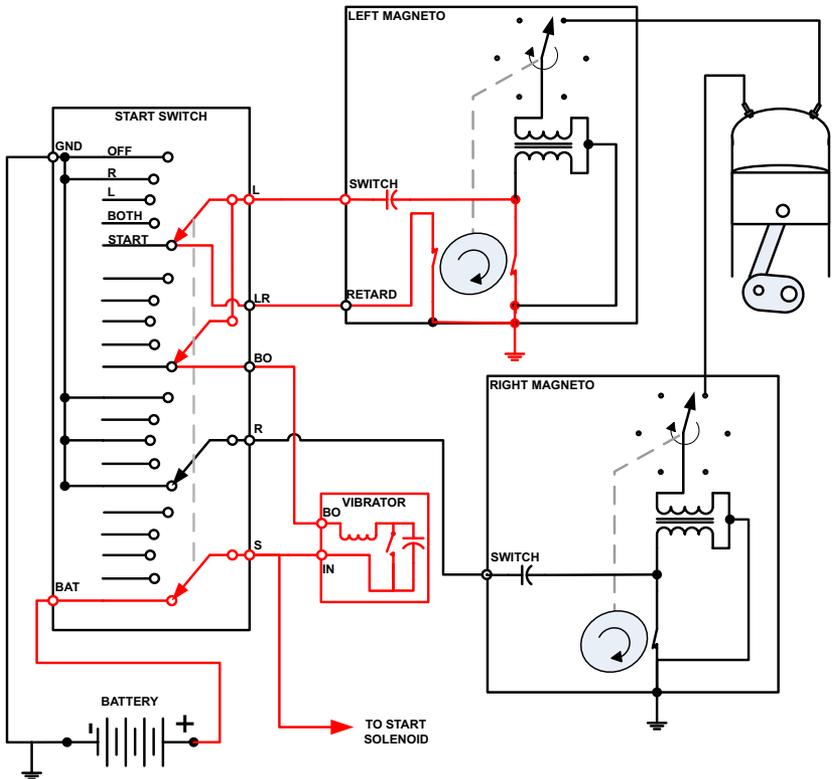

Figure 2. Vibrator Energized
2. Turn the ignition switch to the "START" (Figure 2) position. Lines in the illustrations indicate the circuit path.